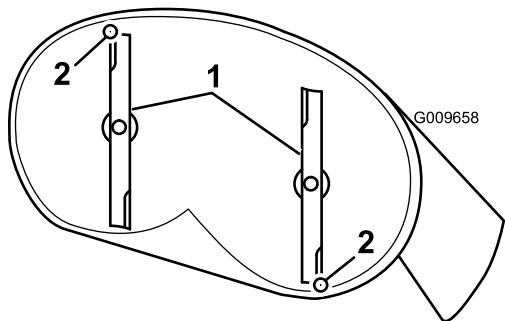
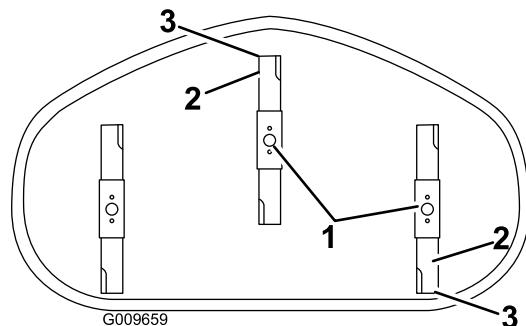

Figure 53
Figure 54
4. Carefully rotate the blades so they are facing front to rear (Figure 53 and Figure 54).
5. Measure from the tip of the front blade to the flat surface and the tip of the rear blade to the flat surface (Figure 53 and Figure 54). If the front blade tip is not $1/16$ - $5/16$ inch (1.6-7.9 mm) lower than the rear blade tip, adjust the front locknut.
8. After adjustment, check the front-to-rear slope again. Continue adjusting the nut until the front blade tip is $1/16$ - $5/16$ inch (1.6-7.9 mm) lower than the rear blade tip (Figure 53 and Figure 54).